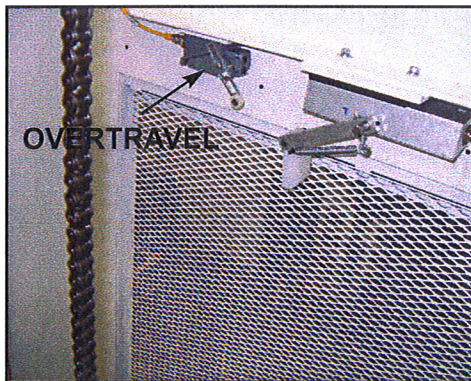

Figure 28
2. Adjust overtravel switch so carriage won't run into interlock or top lift components. See Figure 28.